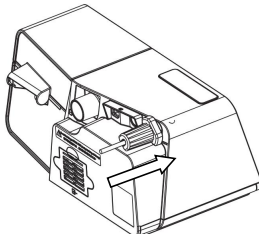

Fig. 12-6
- (3) Insert the power cord locker into the buckle of DC inlet, as shown in Fig. 12-6.